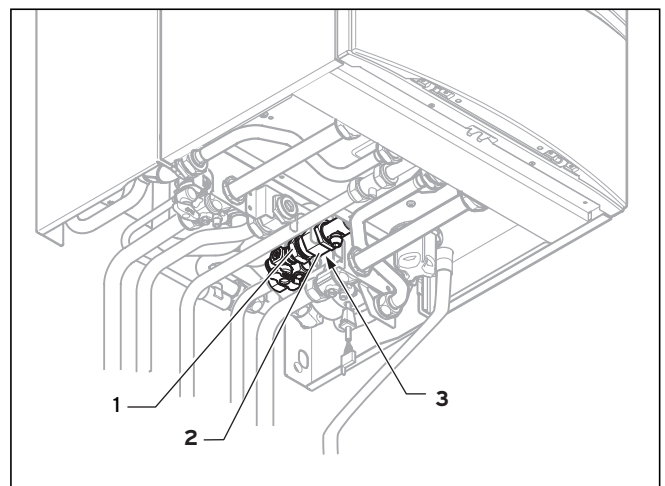

Fig.7.10 Cleaning strainer in cold water supply
- Close the cold water stop valve on the inlet combination (see Fig. 7.10) and drain the unit from the hot water side.
- Release the fitting (1) of the cold water inlet.
- Release the fitting (3) on the connector (2).
The fitting (3) is located above the elbow (2) and is not shown in Fig. 7.10.
- Remove the connector (2) from the chassis.